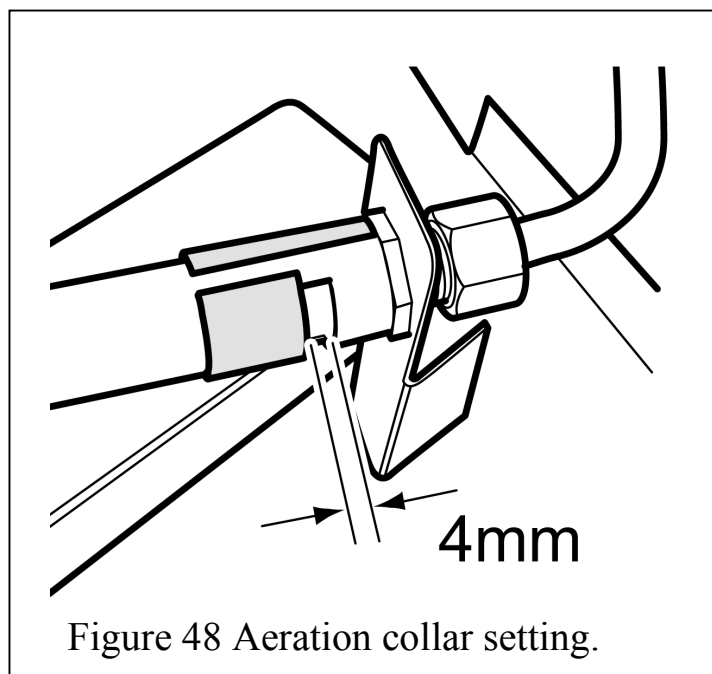

Figure 48 Aeration collar setting.
- **The aeration collar is factory set.** If the gap at the rear of the mixer tube is different to that shown in figure 48 see below.
- The aeration collar should be positioned so that the opening in the rear of the mixer tube is partially closed. Slide the aeration collar towards the injector as far as it will go. The gap should be 4mm (See figure 48).